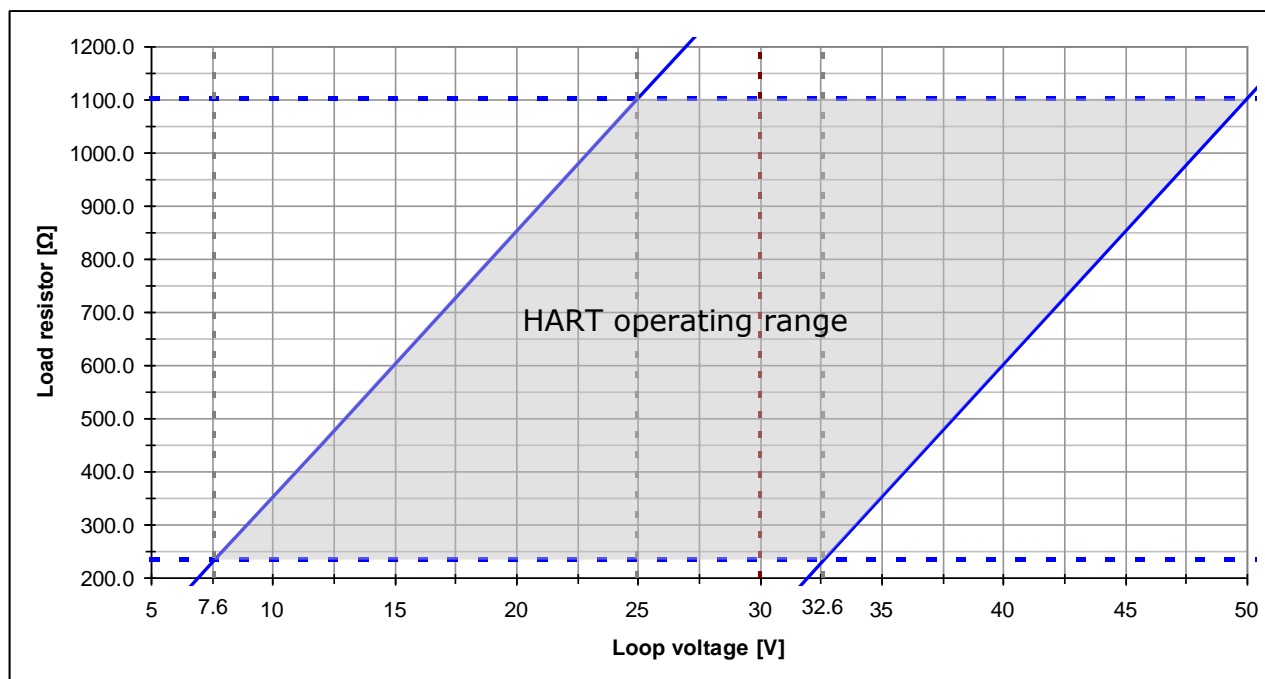

Figure 70 Load / voltage limitations.
According to Figure 70, the load limitation at 30 V is min. 230 Ω and max. 1100 Ω .
- Cable length: To achieve maximum useful cable length, select the smallest allowable load resistor value according to Figure 70.
- Loop voltage: For loop voltages above 32.6 V it may be necessary to increase the load resistor value due to power rating limitations of the FGM 160 current loop outputs (ref. Figure 70).